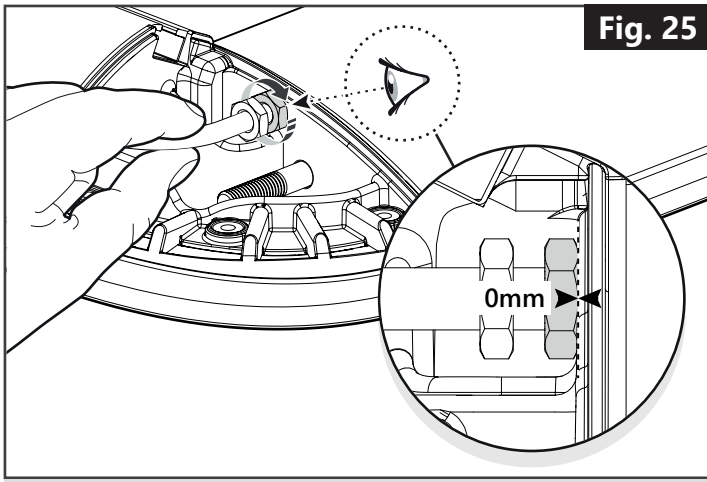

Fig. 25
- 7) While keeping the cable corner assembly in place, lightly tighten the inner nut to keep the assembly in it's new position. **(Fig. 25)**